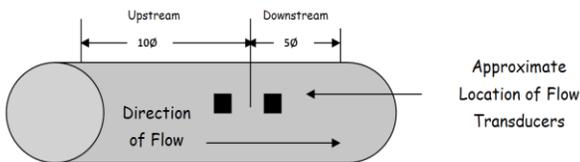

Figure 3a Locate sensors following the 2/3 – 1/3 rule with a minimum distance of 15x pipe diameters between flow obstructions (pipe fittings, probes, etc.)
2. Select pipe monitoring point for transducer mounting (**FUM ch5 p23**). See figure 3a.